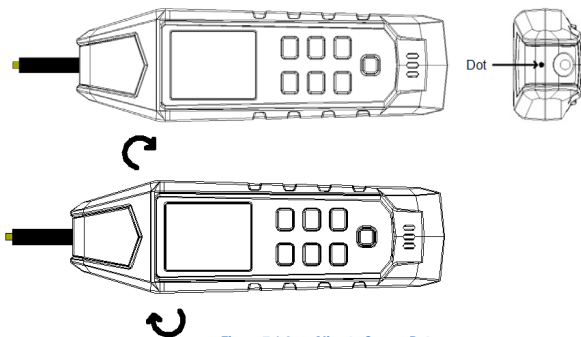
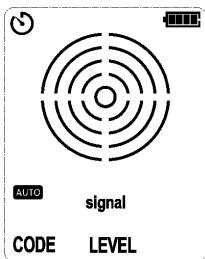

Figure 7.1.3a – Align to Sensor Dot
Figure 7.1.3b – No Signal Detected
3. For best results when tracking an energized conductor, align the dot on the top of the sensor to the direction of the conductor, as shown in **Figure 7.1.3a**. If not aligned properly, signals may not be detected, or the code may be wrong. To check the direction of the cable, rotate the receiver 90°, as shown in **Figures 7.1.3b** and **7.1.3c**. The signal strength reaches its maximum when the cable is aligned with the dot on top of the unit. According to the differences of detected signals, the receiver automatically detects if the cable is energized (“”), which will be displayed on the LCD. No need to perform manual setting.